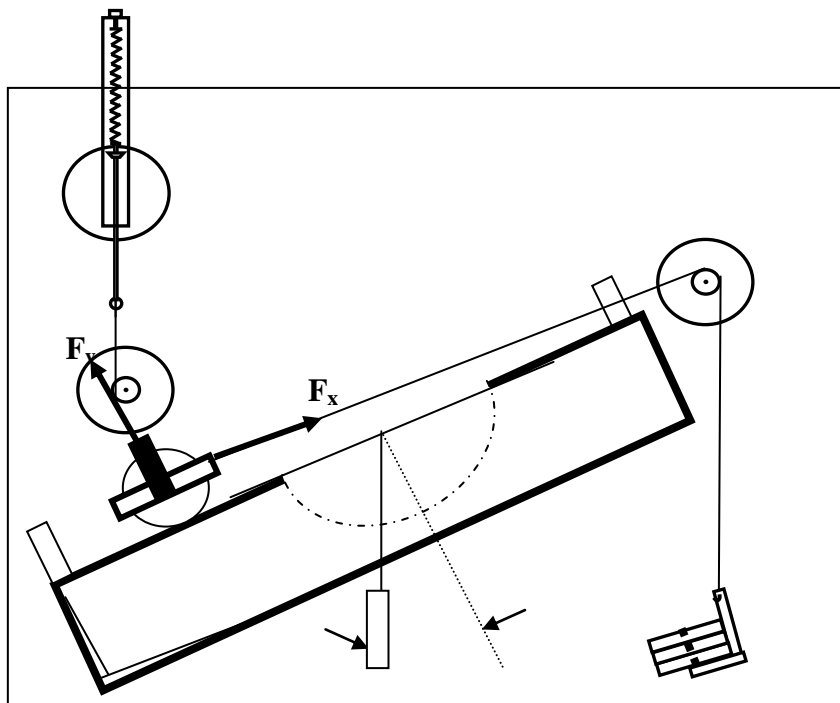

Figure 8.5: Measuring the Normal Force
- 6- Set up the spring balance and a pulley as shown in Fig.8.5. Adjust the pulley and the spring balance so the string pulls the bracket of the rolling mass at a  $90^\circ$  angle to the